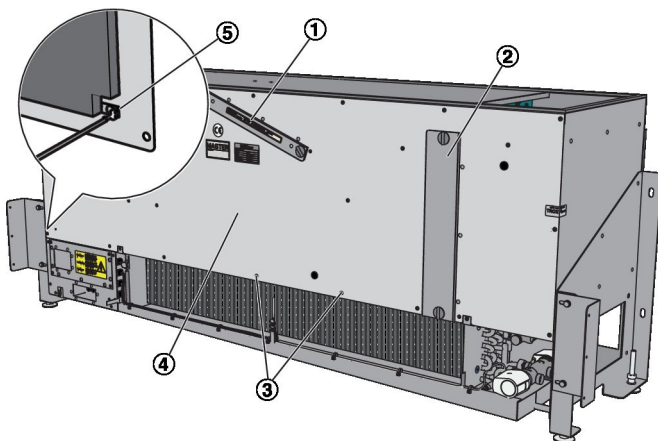

Fig. 36: Fixing the cover plate
- ▶ Attach the protective earth conductor (Fig. 36/5) to the cover plate (Fig. 36/4), then put the cover plate back on the ventilation unit. Fix the cover plate with the Phillips screws (Fig. 36/3).
- ▶ Insert the extract air filter (Fig. 36/1) (Fig. 36/2) and assemble the cover of the outdoor air filter Fig. 36.